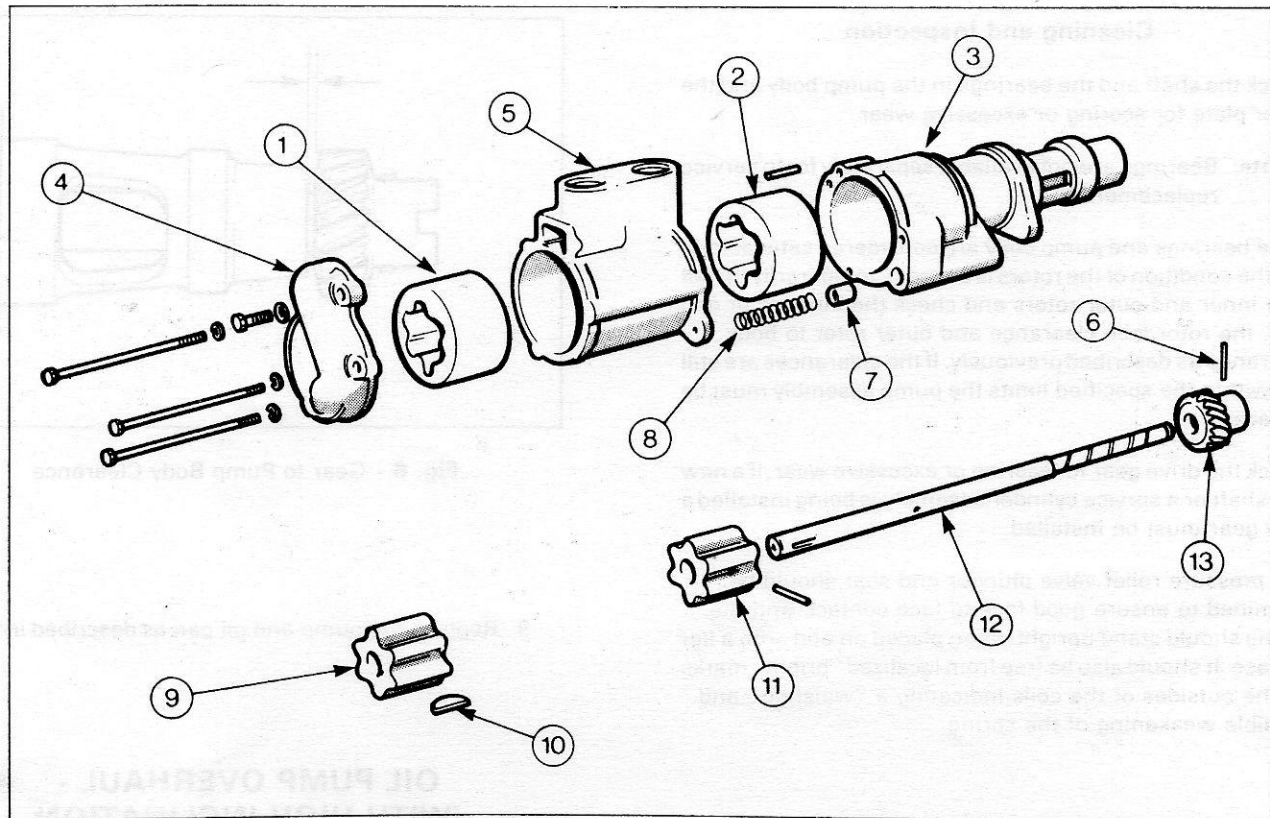

Fig. 7 - Oil Pump With High Inclination Oil Pan
1. Remove the four retaining bolts and remove the end plate (Fig. 7).